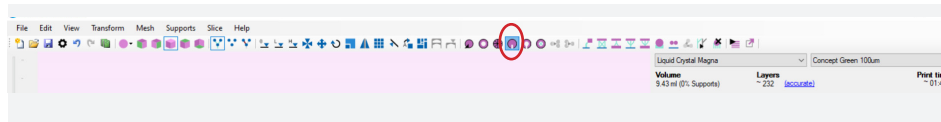

Figure 22
- Add three drain holes per dental model, one in the middle of the arch and one on each of the legs. In 'Mesh' select 'Add drainage hole' or select 'Flexible drain hole' icon (figure 22).